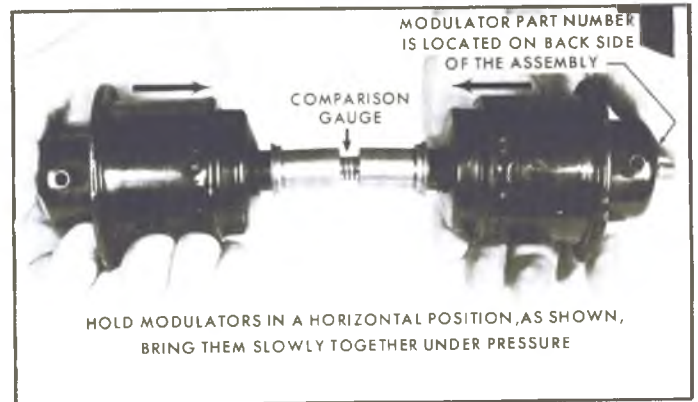

Fig. 35M—Checking Bellows Load
- Holding the modulators in a horizontal position, bring them together under pressure until either modulator sleeve end just touches the line in the center of the gauge. The gap between the opposite modulator sleeve end and the gauge line should then be  $1/16''$  or less. If the distance is greater than this amount, the modulator in question should be replaced. (Figs. 35M, 36M, and 37M).